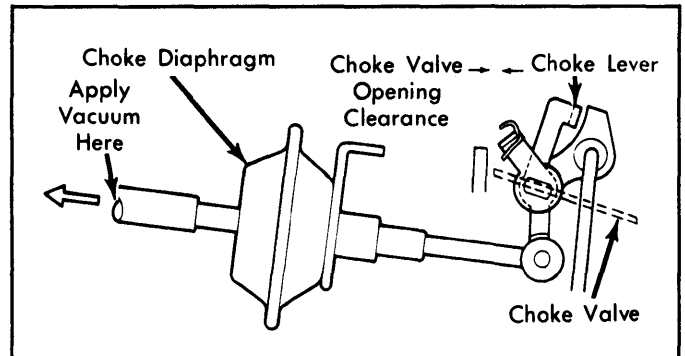

Fig. 7: Choke Diaphragm Adjustment
2) Clearance should be .047-.067" (1.2-1.7 mm). Choke valve opening angle should then be 16-20 degrees. If incorrect, bend choke lever until proper clearance is obtained. See Fig. 7.